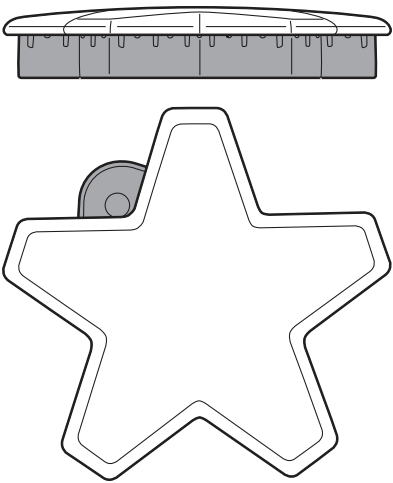
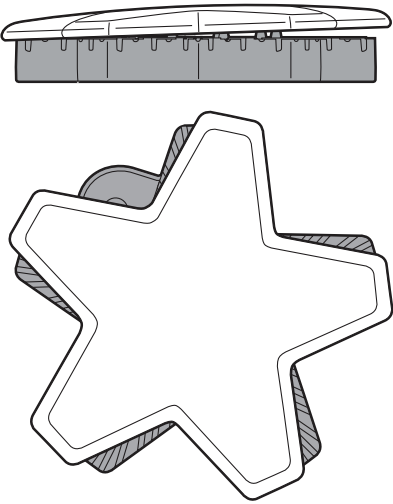

Figure 16: Correct Burner Cap Placement
Figure 17: Incorrect Burner Cap Placement
- Check each burner to make sure there is no gap between the burner cap and burner base. See *Figure 16 and Figure 17: Correct and Incorrect Burner Cap Placement* to see examples of correct and incorrect placements of the burner cap.
- You may gently try to move the burner caps from side to side to check if the caps are properly placed on the burner bases. When properly placed, each burner cap will rest flat on top of its burner base, and completely cover the star-shape of the burner base when viewed from the top as shown in *Figure 16: “Correct Burner Cap Placement”*.